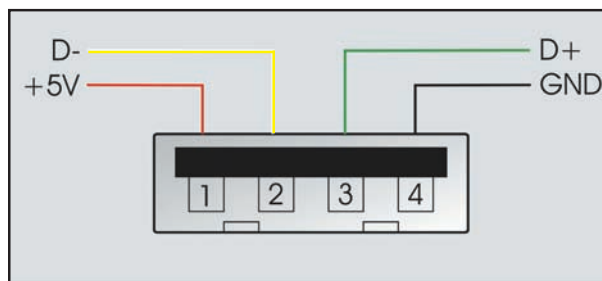

Fig.1. PCs are master devices that have a type A USB socket. Communication is via a three-wire link, with a fourth wire providing a +5-volt supply
USB avoids all these complications, and uses a simple four-wire connection. A PC normally has a type A socket, and connection details for this are provided in Fig.1. Peripherals usually have a type B socket, which uses the arrangement shown in Fig.2. The data is carried differentially on the two data (Data- and Data+) lines, and there is, of course, a ground (Gnd) connection.
**Fig.1: the complete circuit diagram for the control module. An AT90S2313 microcontroller (IC1) decodes data from the infrared receiver (IC3) and drives the motorised potentiometer accordingly. Five outputs from port B drive the relay circuits on the preamp (Feb '08) to provide remote control of the music source as well.**
As can be seen from the circuit diagram (Fig.1), the design is based on an AT90S2313 microcontroller from Atmel. This device includes 2k bytes of code (FLASH) memory, 28 bytes of RAM and 128 bytes of EEPROM.